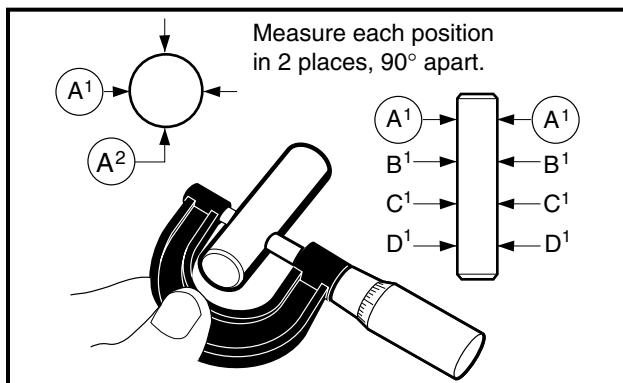

Figure 18-47 Measure O.D. of Piston Pin
1. Use a micrometer to measure the outside diameter of the piston pin at several points along its length (**Figure 18-47, Page 18-25**).